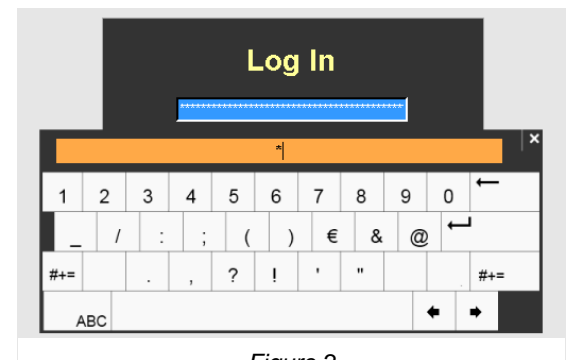

Figure 2
- Log in by selecting the blue log in field and entering the password: “2” (or, followed by the enter key on the virtual keyboard (Ref: Fig 2)